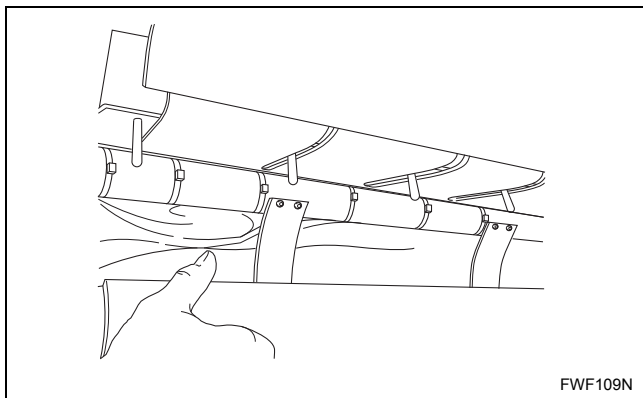

Figure 8
- a. Remove protective paper from below feeding table. Refer to *Figure 8*.